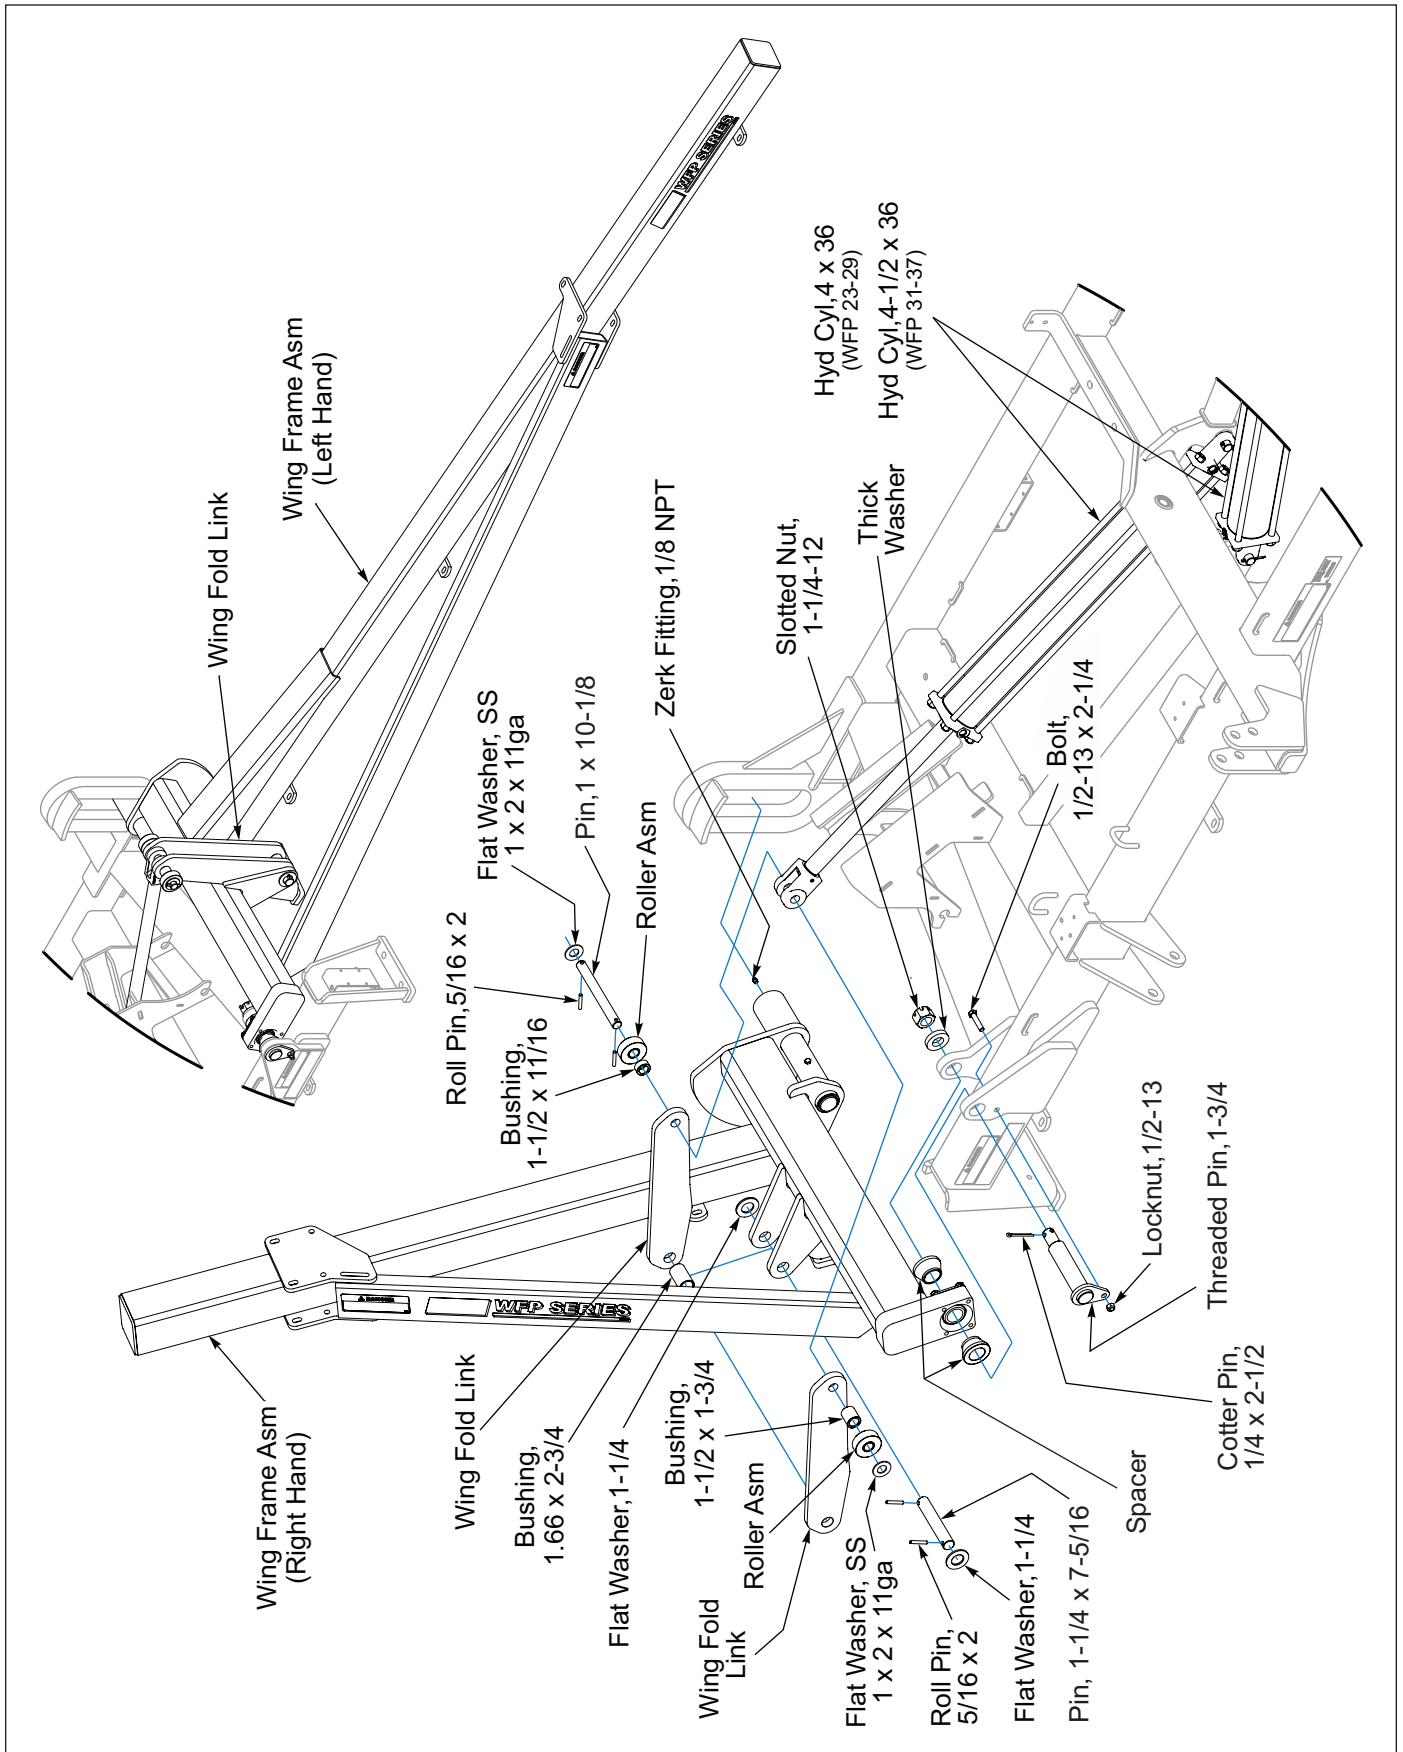

Figure 2-17: Wing Installation
1. Assemble the Wings onto the Center Frame. **See Figure 2-17.** At the rear of the Center Frame, slide the RH or LH Wing Guide Roller into the Center Frame Yoke/Guide. At the front of the Center Frame, place a Spacer on each side of the Spherical Bearing, positioning it between the Center Frame Lugs.